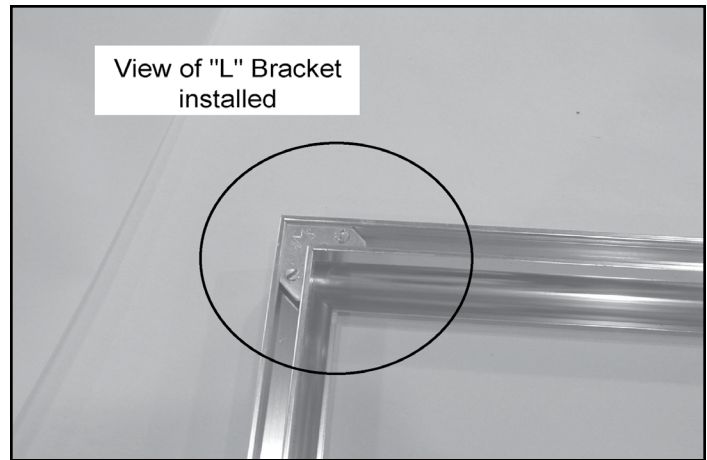

Figure 21.4
4. Connect the trim pieces together using the "L" Brackets supplied (**Figure 21.4**).